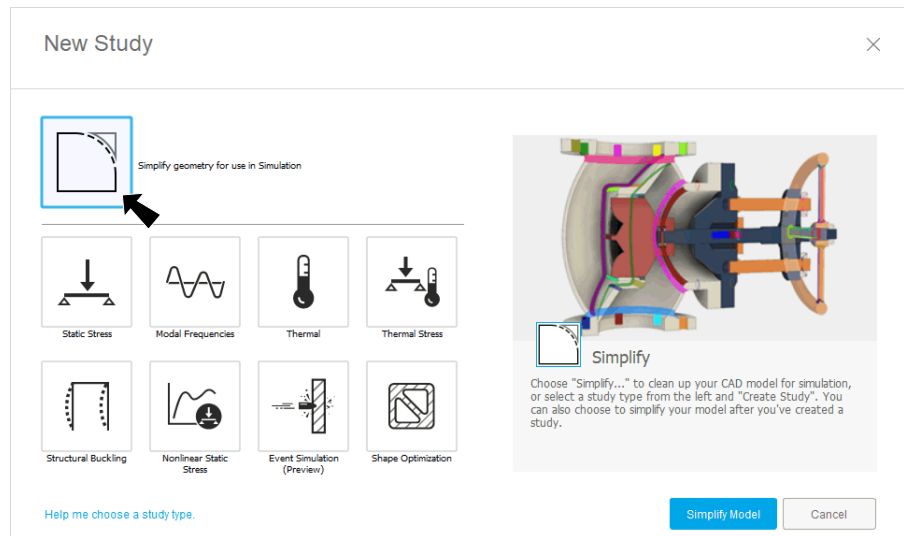

Fig. 16
Step 3. In the New Study dialog box **double click Simplify** , Fig. 16.